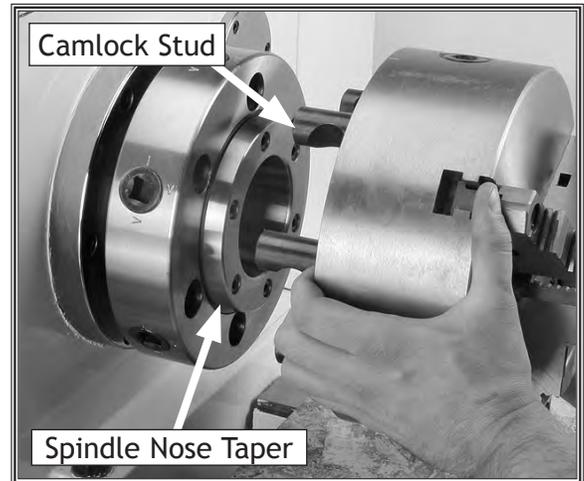

Figure 25. Installing and removing the chuck.
2. Place a piece of plywood across the lathe bed, wipe clean the spindle nose taper (**Figure 25**) and the mating surface on the chuck with a rag.